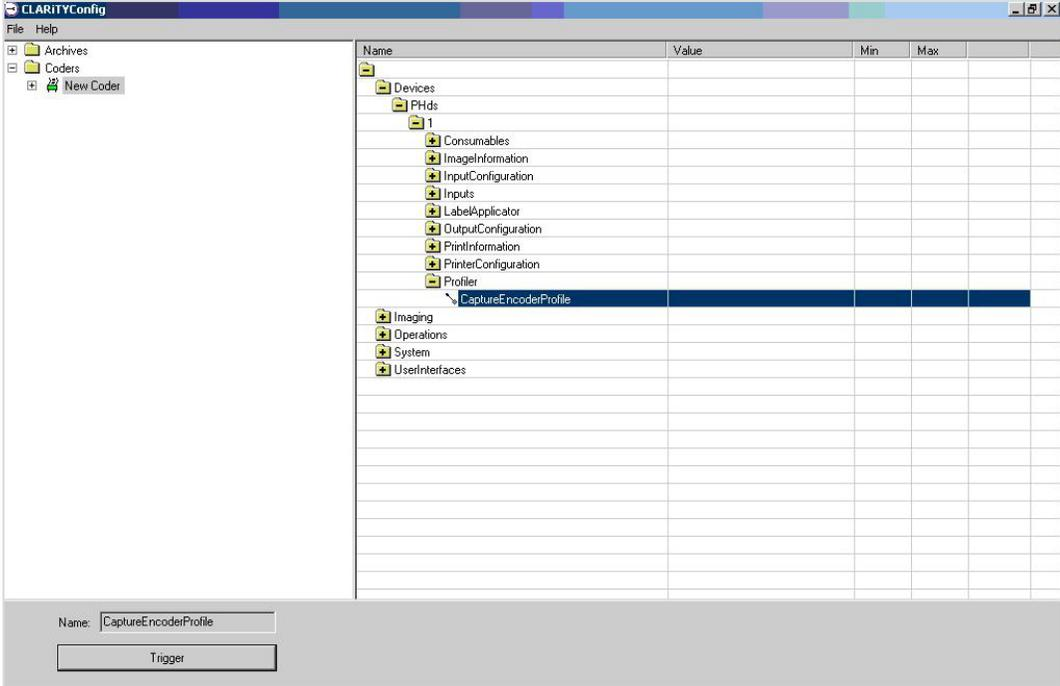

Figure 5-18: Encoder Profiles - CLARiTY Configuration Settings
- 1. Click on the new coder icon and navigate through devices and select Capture Encoder Profile from the list as shown in Figure 5-18.